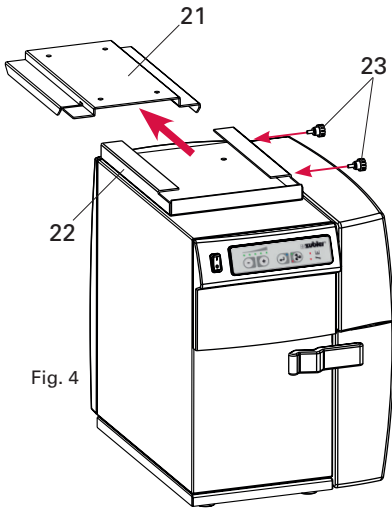

Fig. 4
- The extraction system must be able to suck in cool air from the front. (Fig.4)